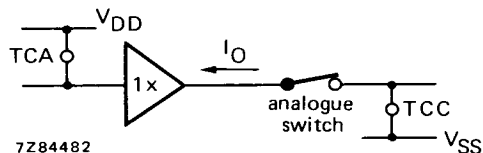

Fig. 10 Equivalent circuit for note 6.
6. The analogue switch is in the ON position (see Fig. 10).